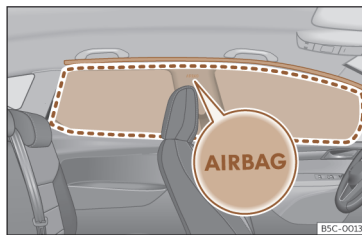

Fig. 35 Location of head-protection airbags.
Head-protection airbags are on both sides of the passenger compartment, above the doors >>> **Fig. 35** and their location is indicated with the word "AIRBAG".
The framed area is covered by the head-protection airbag when it is deployed (deployment area) >>> **Fig. 35**. Therefore, objects should never be placed or mounted in this area >>> ⚠.
- Ensure that children are correctly seated in their seats and that their heads are not in the deployment zone of the head airbags >>> **Fig. 35**, as deploying airbags could hit them and cause serious injury.